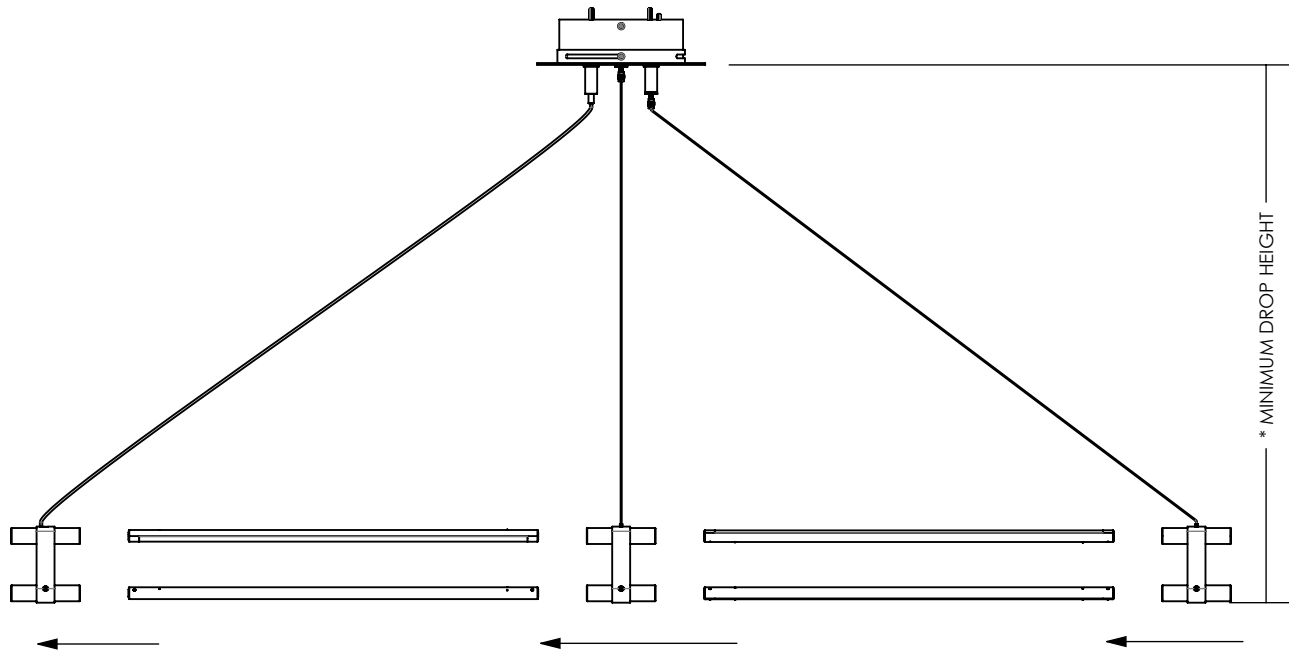

FIGURE 11
1. Drop the fixture's suspension height to meet the minimum requirement shown in Figure 11 to avoid damaging the light tubes.